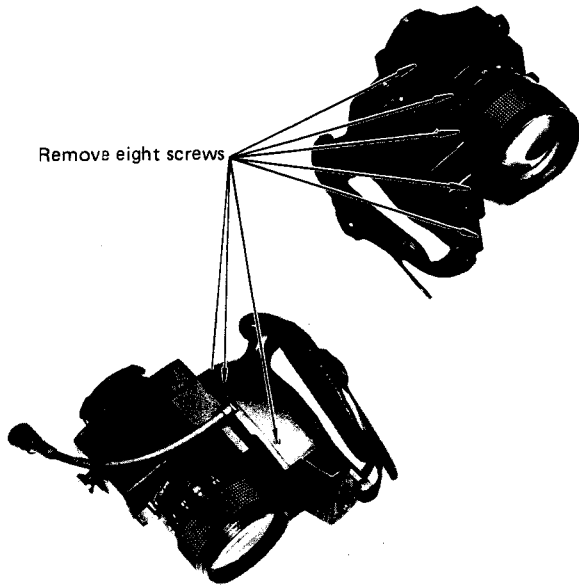

Fig. 4-1
- o Remove eight screws which hold the grip cover and remove the grip cover. (Fig. 4-1)